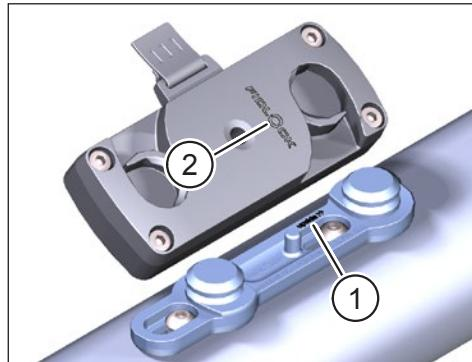

Fig. 2: Orientation of FIDLOCK® Bike Base and FIDLOCK® Force Connector
- ▶ Observe the inscription engraved "**upside>>**" when mounting on the FIDLOCK® Bike Base (Pos. 1 in Fig. 2). The upper edge of the FIDLOCK® logo (Pos. 2 in Fig. 2) on the FIDLOCK® Force Connector must point in the direction of the arrow from "**upside >>**".